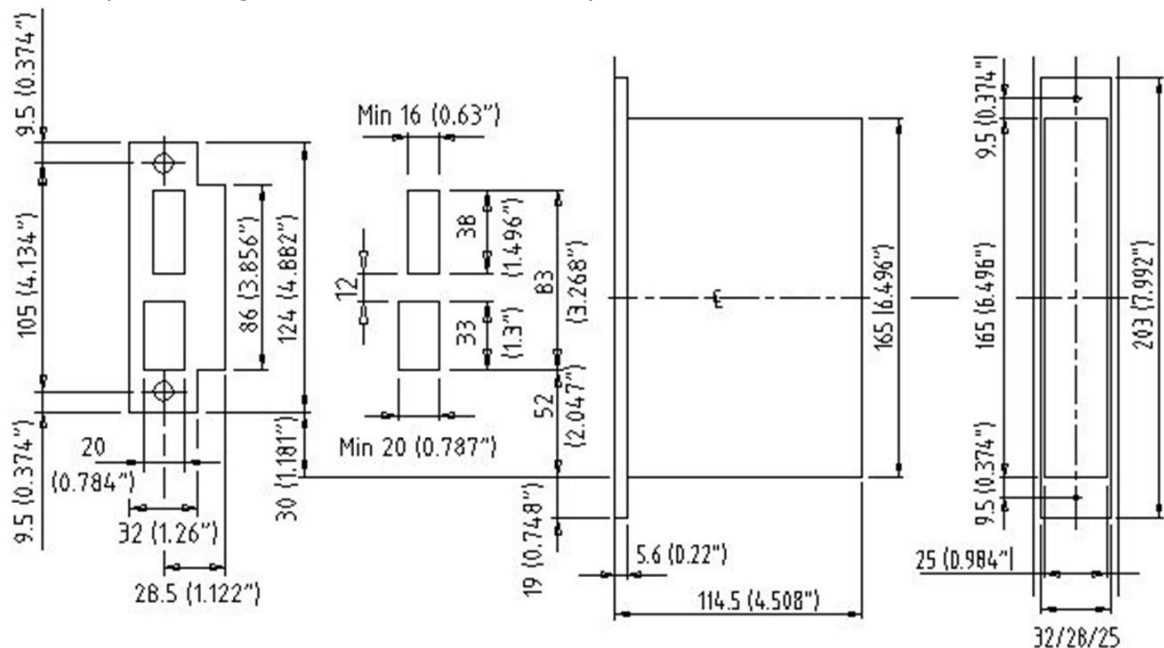

Figure 7: Positioning of ANSI (DA) Standard striker plate. **Note:** The dimension 30 mm (1.181") from the edge of the lock case to the edge of the striker plate.
The lock case and the striker plate dimensions in Figure 7 show the lock case center line (CL); see dot and dash line through the picture. The CL is important for the positioning of the lock case, striker plate and RFID LCU onto the doors.
The ANSI standard striker plate is positioned in the frame so that the bottom of the striker plate is 30 mm (1.181") above the bottom of the lock case; see Figure 7. Horizontally, the B- or C-dimension (see Figure 1) will apply depending on the direction of the door and the center/rebate orientation. **Tip:** Be aware if there is any door gasket.